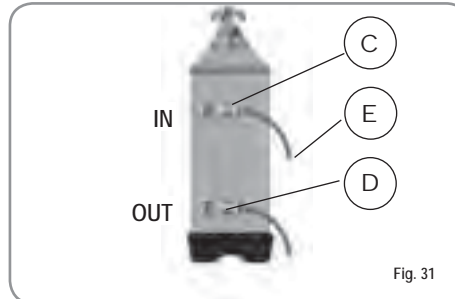
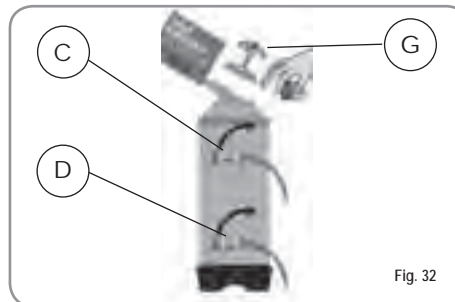

Fig. 31
Fig. 32
- 1) Turn the machine off and place a container large enough to contain at least 5 litres under tube E (Fig. 31). Turn levers C and D from left to right; take the cap off by unscrewing knob and fill with 1 Kg normal kitchen salt (Fig. 32).